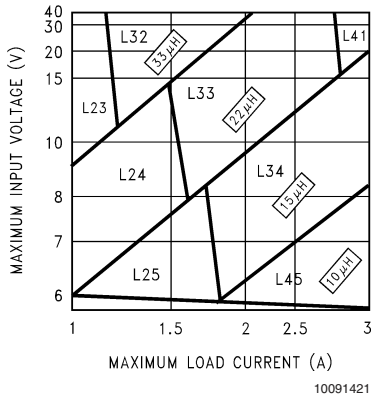
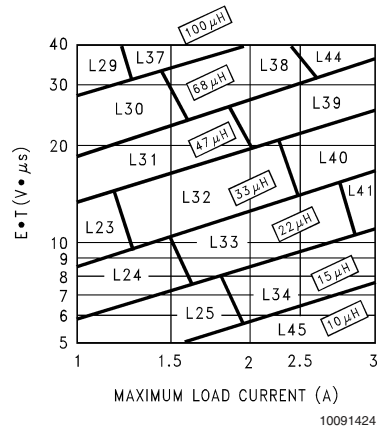

FIGURE 3. LM2676-3.3
FIGURE 6. LM2676-ADJ
**Step 3:** Determine the inductor required by using one of the four nomographs, *Figure 3* through *Figure 6*. Table 1 provides a specific manufacturer and part number for the inductor.
**Step 5:** Determine an input capacitor from Table 4 for fixed output voltage applications. Use Table 2 to find the specific capacitor type. For adjustable output circuits select a capacitor from Table 2 with a sufficient working voltage (WV) rating greater than  $V_{in\ max}$ , and an rms current rating greater than one-half the maximum load current (2 or more capacitors in parallel may be required).
**Step 3:** Use the nomograph for the 3.3V device, *Figure 3*. The intersection of the 16V horizontal line ( $V_{in\ max}$ ) and the 2.5A vertical line ( $I_{load\ max}$ ) indicates that L33, a 22 $\mu\text{H}$  inductor, is required.
**Step 3:** To use the nomograph for the adjustable device, Figure 6, requires a calculation of the inductor Volt•microsecond constant (E•T expressed in V•μS) from the following formula:
Using Figure 6, the intersection of 27V•μS horizontally and the 2A vertical line (Iload max) indicates that L38, a 68μH inductor, should be used.
**Important Note:** When using the adjustable device in low voltage applications (less than 3V output), if the nomograph, Figure 6, selects an inductance of 22μH or less, Table 6 does not provide an output capacitor solution. With these conditions the number of output capacitors required for stable operation becomes impractical. It is recommended to use either a 33μH or 47μH inductor and the output capacitors from Table 6.